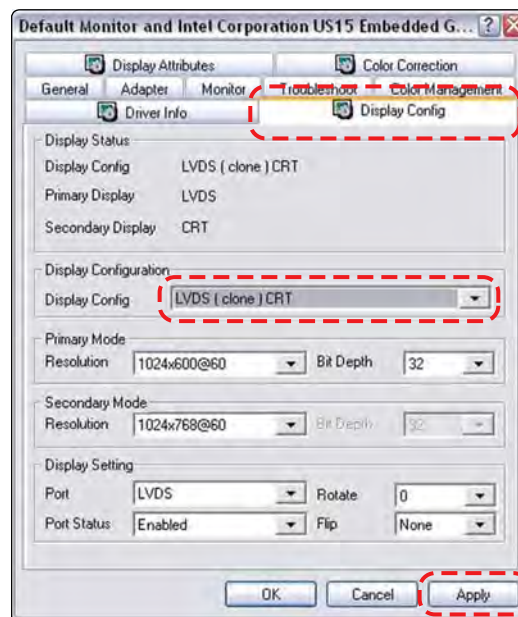

Figure 15-3 Sample Display Config tab
4. From the Display Config tab, select LVDS (clone) CRT from the Display Configuration dropdown menu (Figure 15-3).